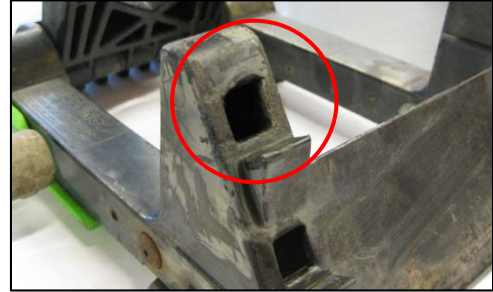

Figure 2: Elongated Tab Engagement Holes
- a) The tab engagement holes, found on the Base tower front faces, should be checked for elongation. If the holes are elongated (see Figure 2), the chock is considered to be non-functional and must be replaced.